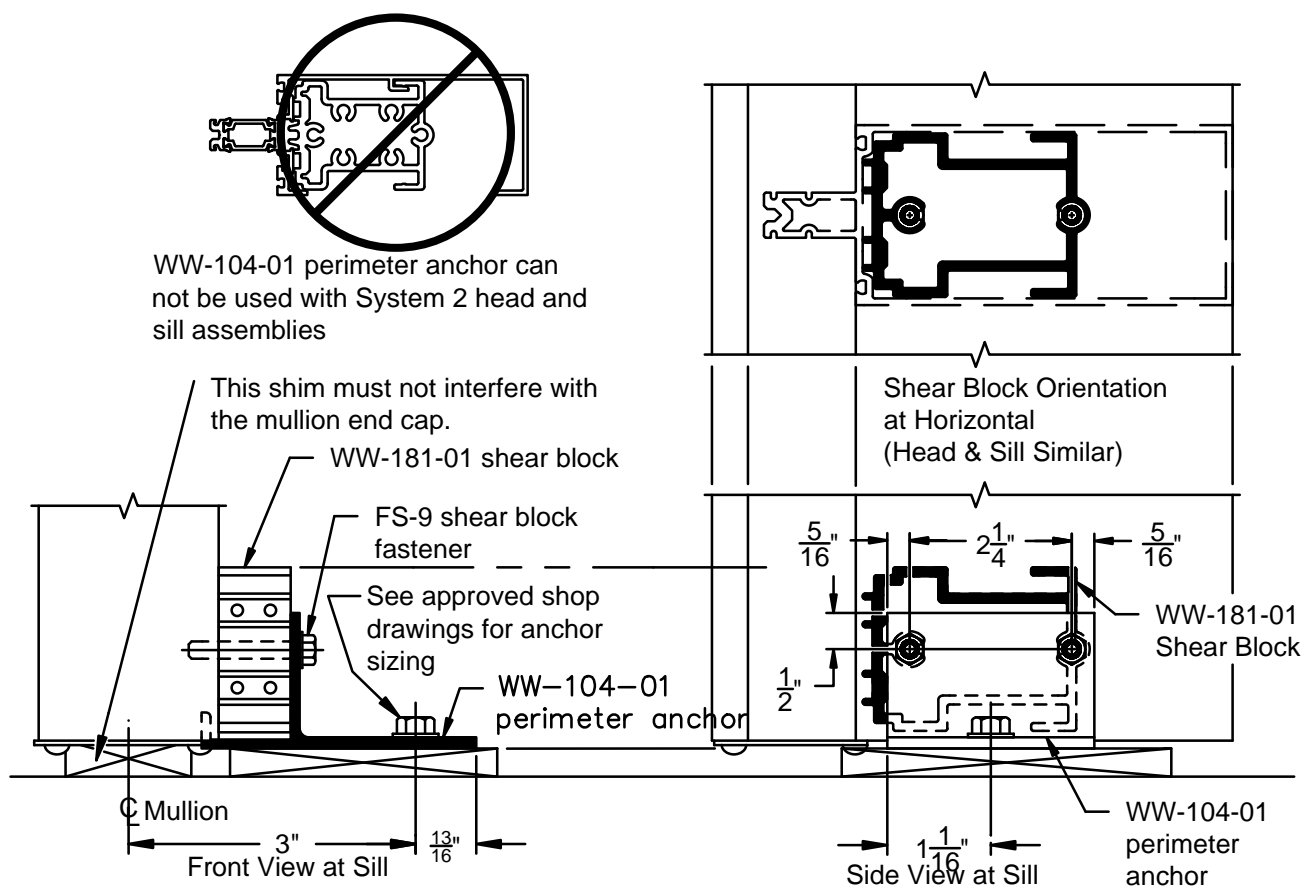

FIGURE 6
2.1.1 Attach shear blocks to all vertical mullions. The integral perimeter anchors are designed for use with standard shear blocks. Note; the WW-104-01 anchor may not be used with Type II head or sill horizontals having an "AW" part number. SEE FIGURE 6 for proper orientation and installation on mullion. NOTE: Depending on the end reactions, either the integral perimeter anchor or tee anchors can be used to anchor the wall. For end reactions above 750 pounds, use "T" anchors.
2.1.4 Attach shear blocks to all vertical members. SEE FIGURE 6, page 12 for proper orientation on mullion. For installations using the integral perimeter anchors, attach to head and sill shear block. NOTE: Depending on the end reactions, either the integral perimeter anchor or "T" anchors can be used to anchor the wall. For end reactions above 750 pounds, use "T" anchors.